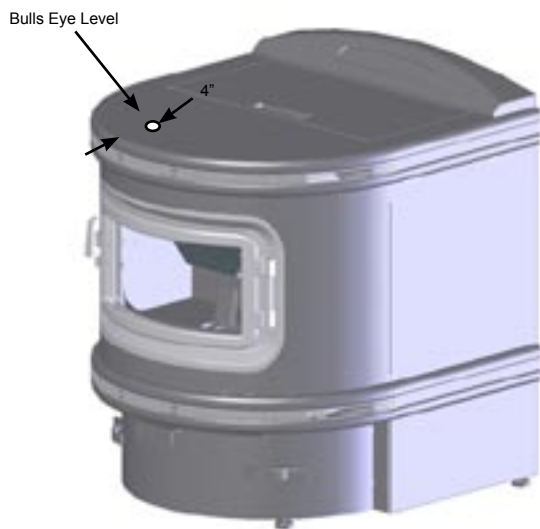

Figure 3
1. Place the level centered side-to-side and about 4 in. (10cm) back from the front of the Room Heater on the top surface. The bubble should end up centered inside the middle circle on the level. If the bubble is not in that position, the bubble will be towards the high side of the Room Heater. See Figure 3.